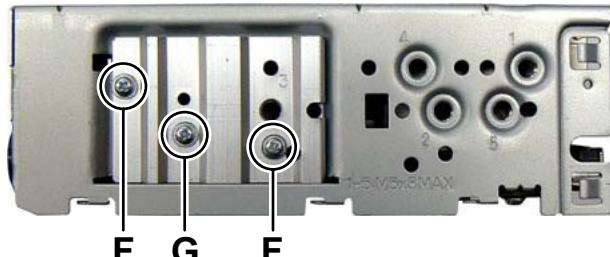

Fig.4
- (2) Remove the two screws **F** and one screw **G** attaching the Side plate. (See Fig.4)